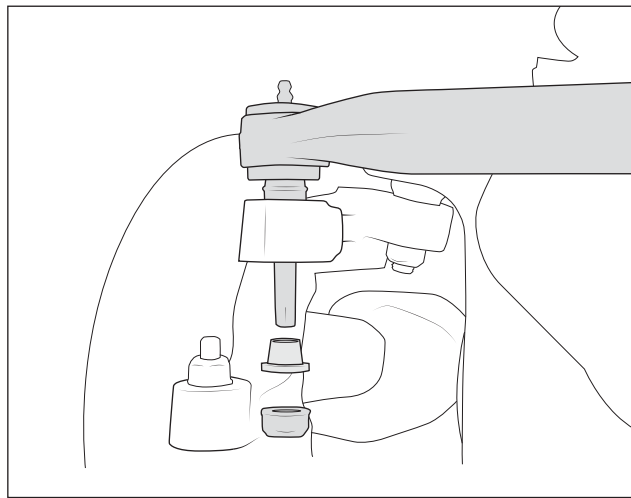

Figure 34
- c. Install new draglink into knuckle. Install tapered insert from bottom side of knuckle and secure with provided nut. Torque nut to **120-130 ft-lb.** (fig. 34).